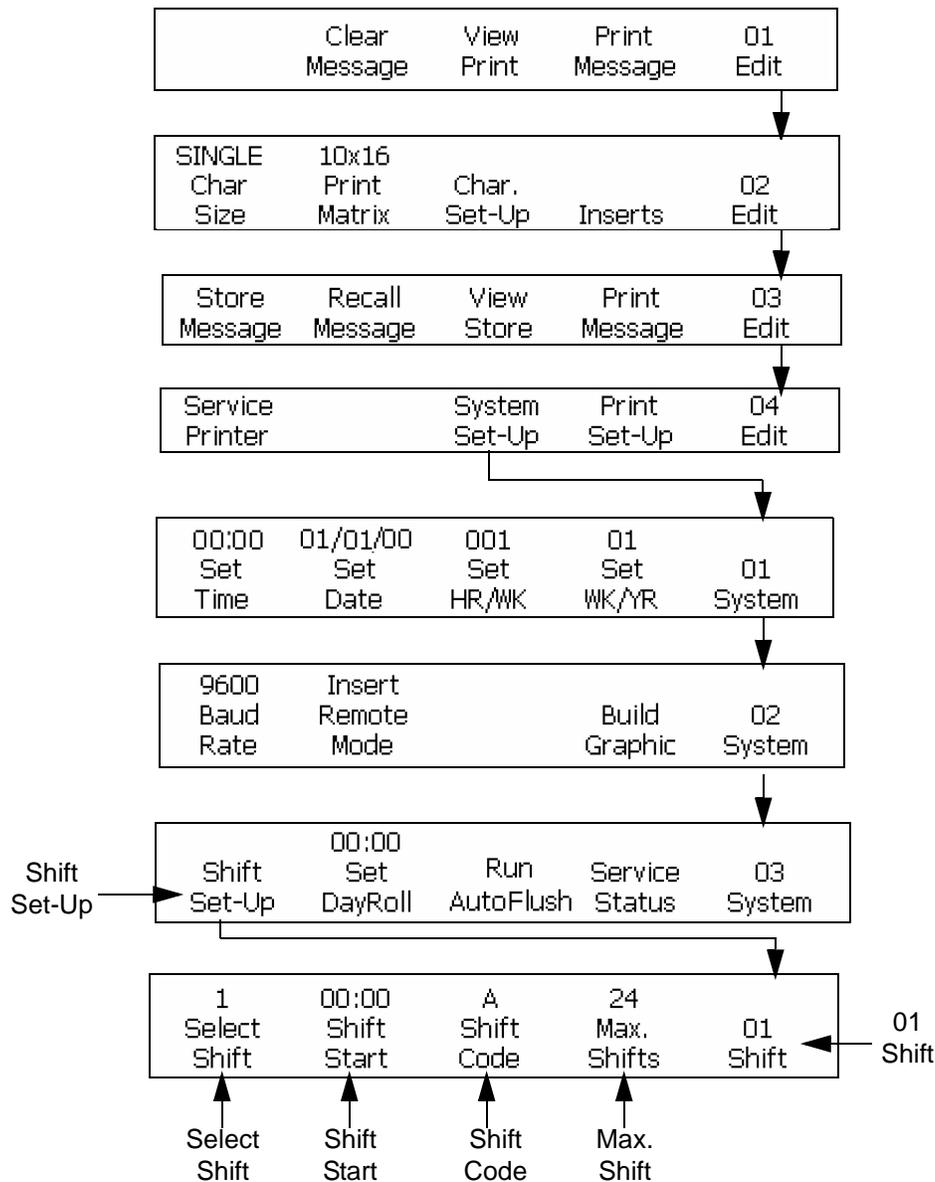

Figure 6-41: Accessing Frame <01 Shift>
- 1 Begin in the frame <03 System>. Refer to Figure 6-41 on page 6-58.
- 7 Enter the shift number. The entry must be from 1-24 (or the maximum number found above F4<Max Shifts>). Refer to Figure 6-41 on page 6-58.